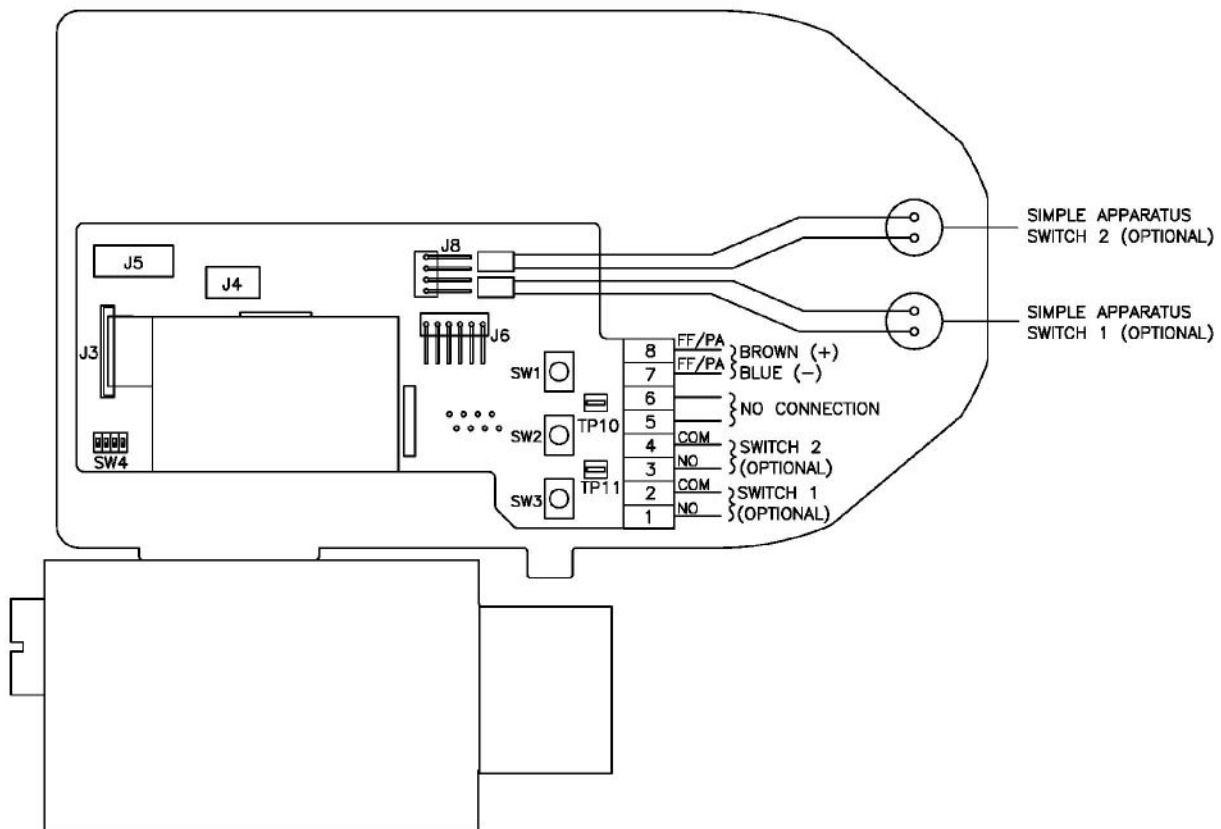

Figure3-10
3. Connect the Fieldbus signal, blue (-) to terminal point 7 and brown (+) to terminal point 8. See figure 3-10 for a wiring schematic.
5. If the positioner was ordered with switches, connect to the switches at terminal points 1 thru 4, as shown in Figure 3-10.